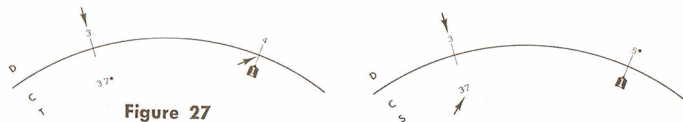

Figure 27
**Example:**  $4 + j3 = 5 \angle 37^\circ$  (Figure 27)